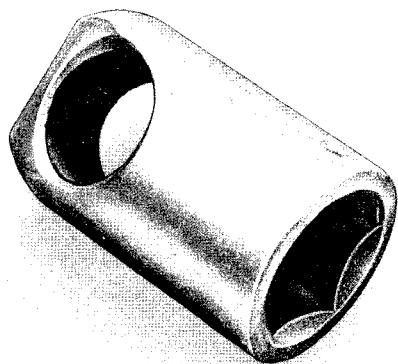
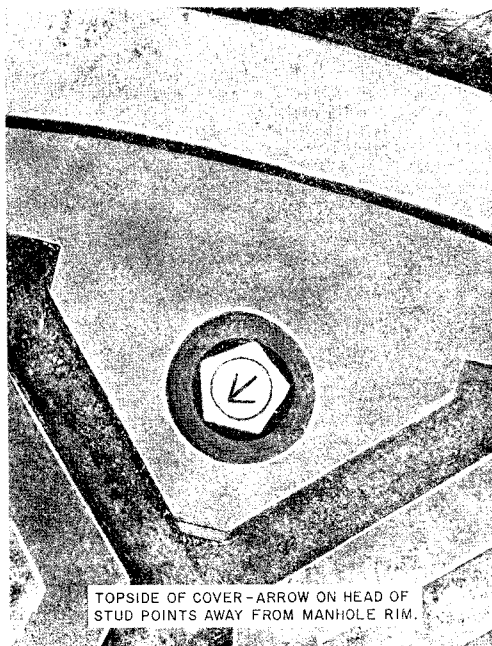

Fig. 3—B Manhole Wrench
Fig. 4—Locking Assembly in Unlocked Position
3.02 The B manhole wrench (Fig. 3) is a socket-type wrench designed to fit pentagonal-headed bolts or locking assemblies (Fig. 4) used on locking manhole covers. The wrench is turned by using a B manhole hook or other suitable tool as a handle.